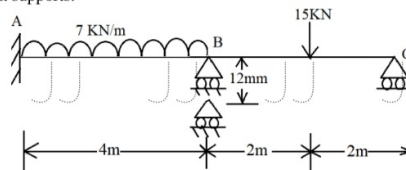

Figure: 6
7. The support B of a continuous beam shown in figure 6 has settled by 12mm. Find out the moments at supports. [15]